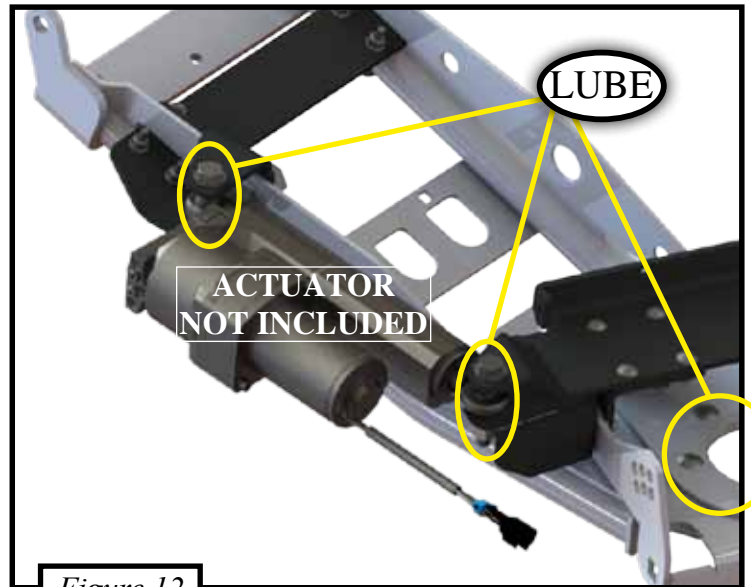

Figure 12
13. Periodically apply lubricant to the rear and front bushings on Hydraulic Actuator (105965 NOT INCLUDED). Also on front pivot of pushtube shown in *Figure 12*.